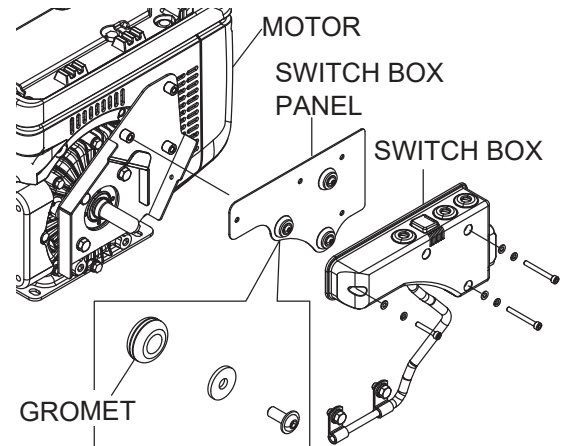

Figure 18. Checking Switch Box
3. To tighten, remove the switch box, then replace the grommet installed to switch box panel to new one (Figure 18).